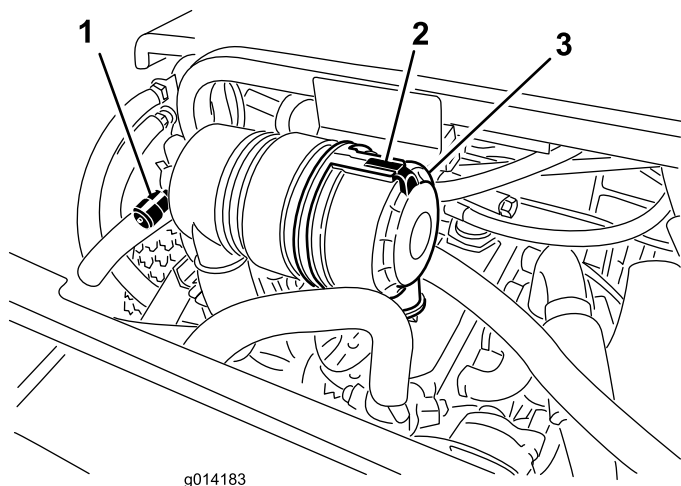

Figure 43
Service the air cleaner filter only when the service indicator (Figure 43) requires it. Changing the air filter before it is necessary only increases the chance of dirt entering the engine when the filter is removed.
1. Release the latch securing the air cleaner cover to the air cleaner body (Figure 43).